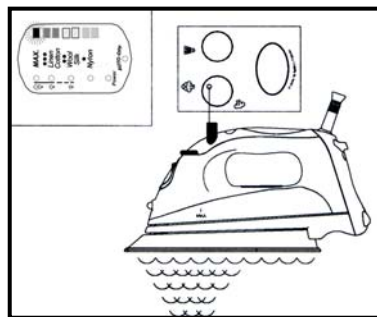

Fig. 4
- Turn the steam button all the way to the right to the X-Tended steam position (Fig. 4).